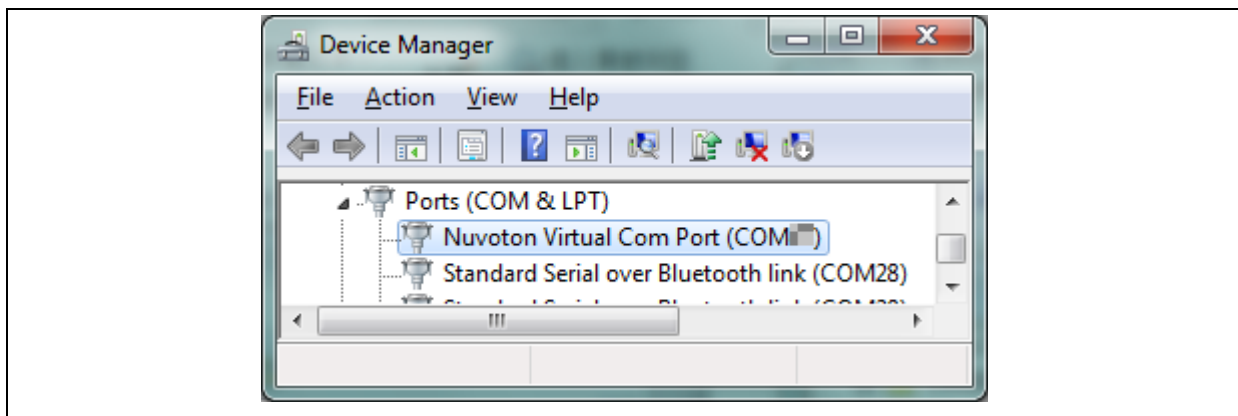

Figure 3-5 Device Manger
3. Find the “Nuvoton Virtual COM Port” on the Device Manger as Figure 3-5.